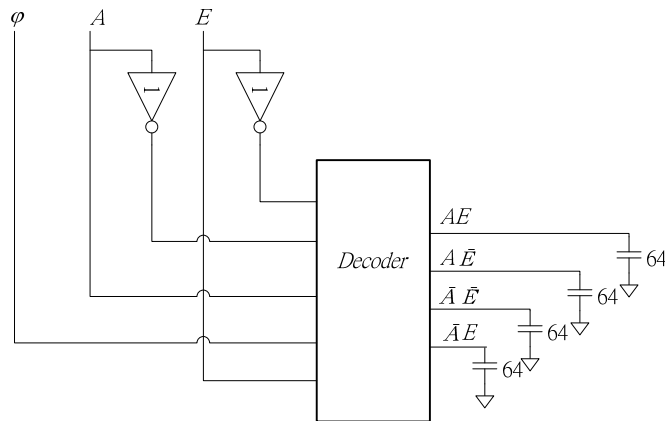

Fig.3
- (2) Based on the unit inverter shown as problem 1, please design a 2 input decoder shown as the figure 3 by using the footed and unfooted dynamic gate shown as the figure 9.23~25 of the text book, respectively. The load capacitance is 64 times of the capacitance of the unit inverter of the problem 1.